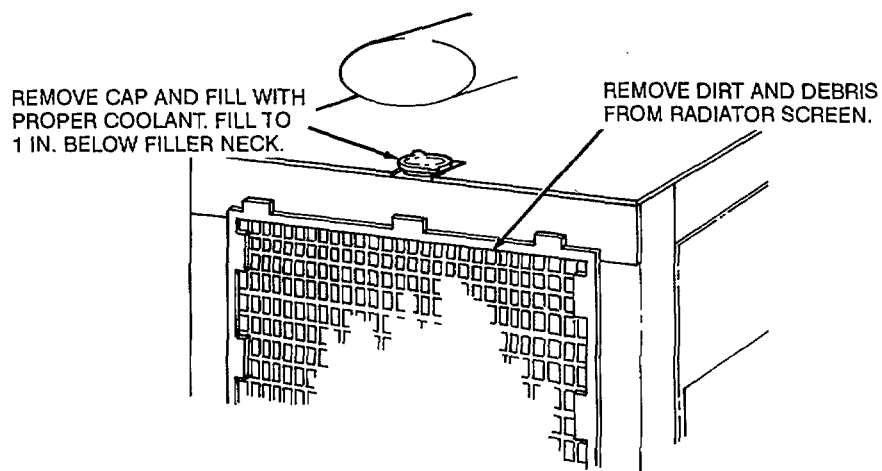

Figure 44. Radiator service
- b. Check coolant level in radiator. Coolant should be 1 in. from bottom of filler neck (fig. 44).